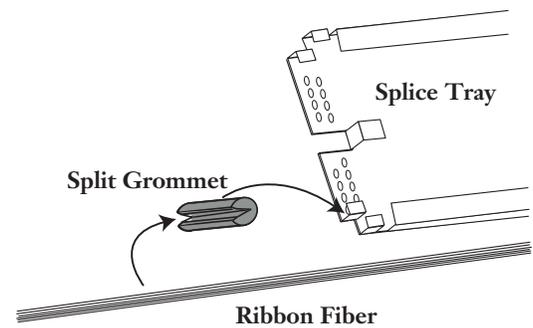

Figure 5 — Protect Ribbon
7.6 Remove the tray from the WBM. Attach a split grommet around the ribbon fiber. Position the protected fiber under the crimp tab at the corner of the tray as shown in Figure 5. Tighten the crimp tab on the tray around the split grommet to secure the ribbon fiber.